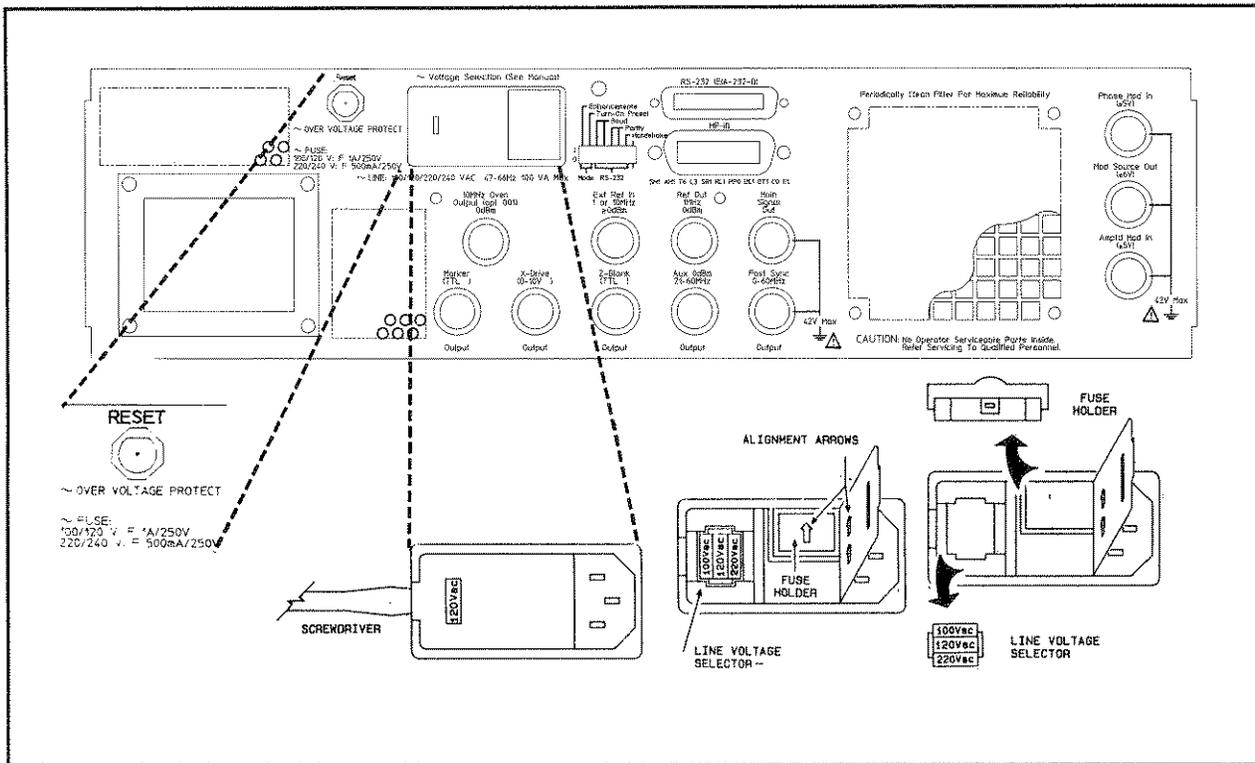

Figure 4-1. Line Voltage Selection, Fuse Replacement, and Circuit Breaker
The line voltage selector is set at the factory to correspond to the most commonly used line voltage of the country of destination. The line voltage selected for the HP 3325B is indicated on the line voltage selector (refer to figure 4-1). Refer to table 4-1 for the line voltage ranges and table 4-2 to set the line voltage and select the appropriate fuse. To change the line voltage and fuse:
2. Pry open the power selector cover on the rear panel with a small screwdriver (see figure 4-1).
In addition to the current protection provided by the line fuse, the HP 3325B is protected by an over-voltage circuit breaker. This device disconnects the power supply from the main power connector when the line voltage exceeds the upper limit. The reset switch, located on the rear panel (figure 4-1), pops out when this occurs. If this occurs: